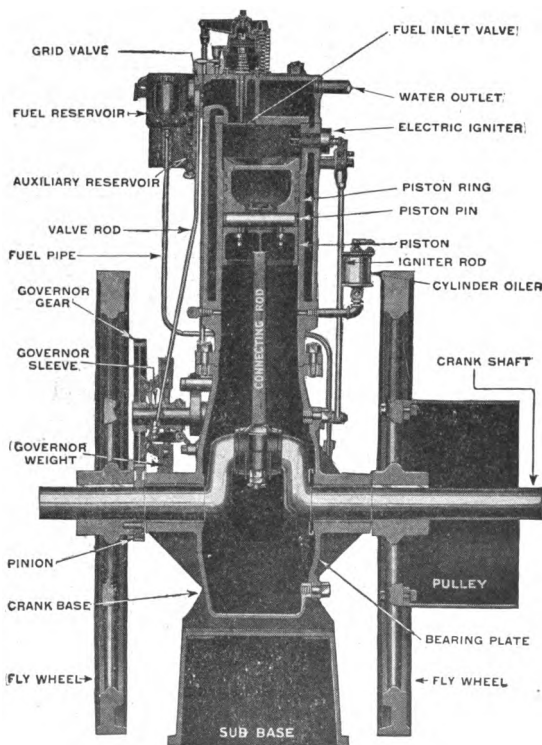

Fig. 43. Vertical Four-Cycle Stationary Engine
**Four-Cycle Type.** Figs. 43 and 44 illustrate the details of a standard vertical four-cycle type of engine. This engine may be
and breaking contact between the electrodes or contact points of what is called a "make-and-break" igniter, shown in Figs. 43 and 46.